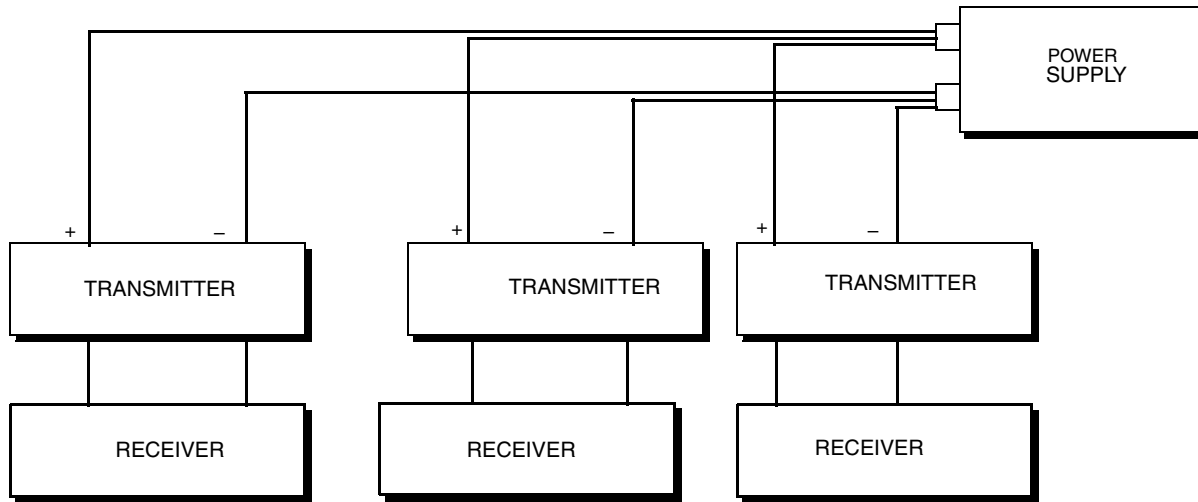

Figure 28. Wiring Several Transmitters to a Common Power Supply (Four-Wire Connection Shown)
8. If wiring additional transmitters to the same power supply, repeat Steps 1 through 7 for each additional transmitter. The setup with multiple transmitters connected to a single power supply is shown in Figure 28.